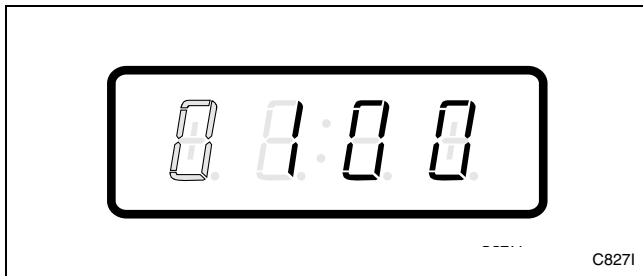

Figure 22
6. Press the START (enter) keypad to enter the fifth digit and display remaining four digits. The active digit will flash one second on and one second off. Refer to *Figure 22*.